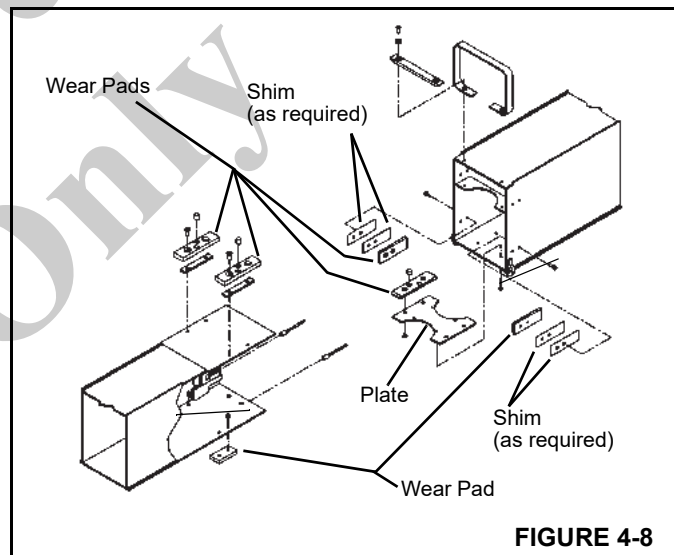

FIGURE 4-8
4. Assemble the bottom front wear pads for the 3rd section as per removal tags and attach to the pad plate (Figure 4-8).